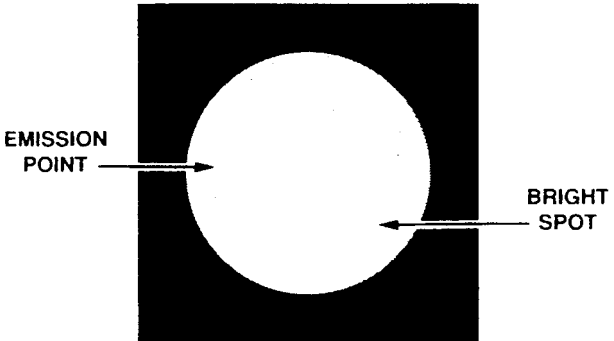

Figure 2-5. Bright Spots.
c. Bright Spots. These can be defects in the image area caused by a flaw in the phosphor screen. A bright spot is a small, nonuniform, bright area that may flicker or appear constant (fig. 2-5). Not all bright spots make the NVG rejectable. Cup your hand over the lens to block out all light. If the bright spot remains, it is an emission point. Bright spots usually go away when the light is blocked out, if they are cosmetic defects. Bright spots are acceptable if they do not interfere with the ability to perform the mission. If bright spots do interfere turn the goggles into maintenance for evaluation.